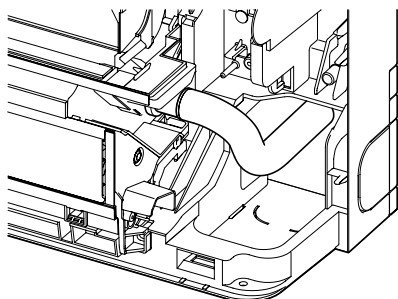

Fig. 5-4
- Insert the drain hose all the way to the base of the drain pan. (Fig. 5-4) Make sure that the drain hose is securely caught on the projection in the hole in the drain pan.